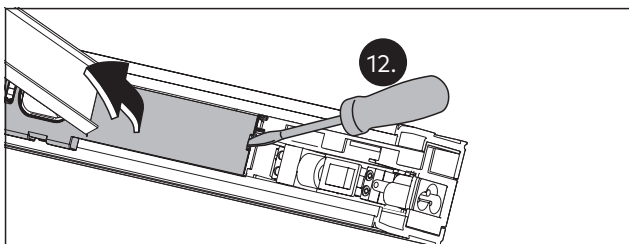

Fig. 19 Open the cover
- 12.** Carefully open the cover from the control housing with the tip of a flat-bladed screwdriver (Fig. 19).